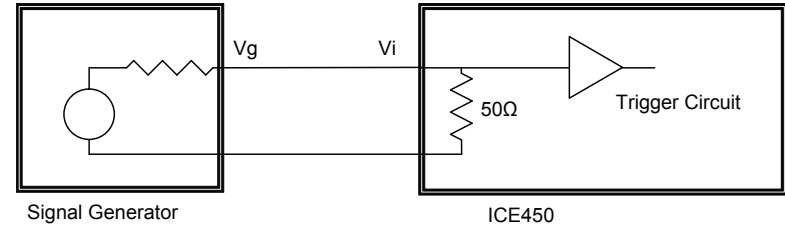

Figure 22 Signal Generator to Trigger Circuit
- The signal generator must be set up to drive the ICE450 50Ω input. Figure 22 shows a signal generator driving the external trigger input of the ICE450.